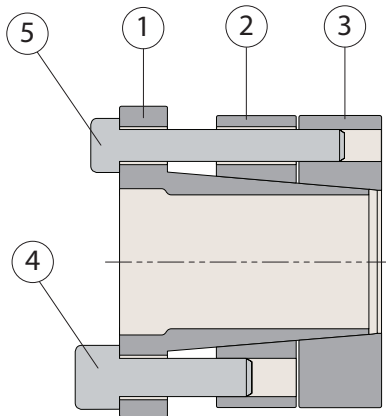

Figure 1
### INSTALLATION (Refer to Figure 1)
2. Loosen all locking screws by a minimum of two (2) turns and transfer at least two (2) larger screws (item 4) into push-off threads in the collar (item 1) in order to keep tapers of Parts 1, 2 and 3 disengaged during assembly (see Figure 1).